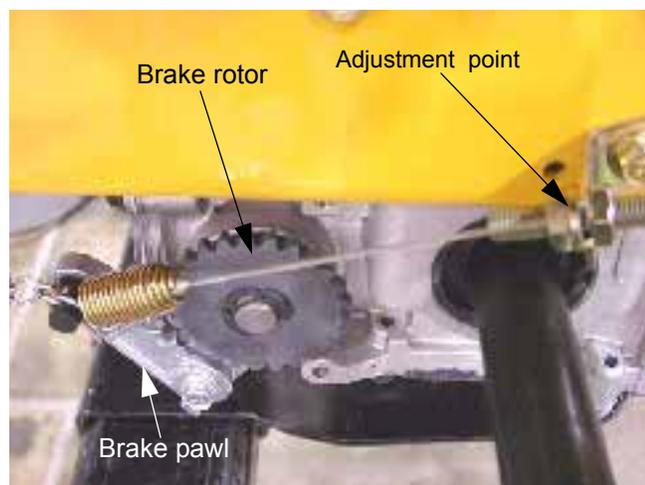

Figure 8.8
8.8. Prior to adjustment, check the brake pawls and rotors. See Figure 8.8.